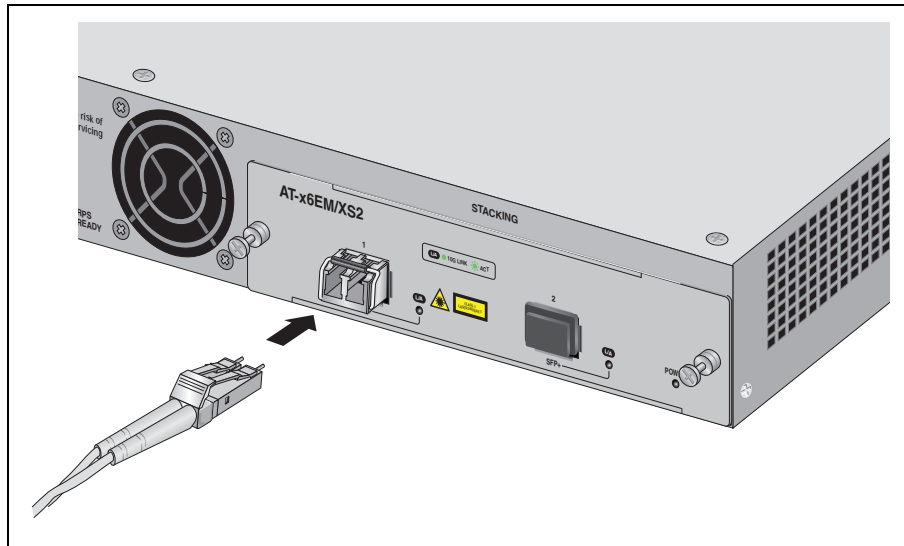

Figure 68. Connecting a Fiber Optic Cable to the SFP+ Transceiver
7. Connect a cable to the SFP+ transceiver, as shown in Figure 68 on page 96. For SFP+ optical and cabling specifications, consult the documentation shipped with the module.